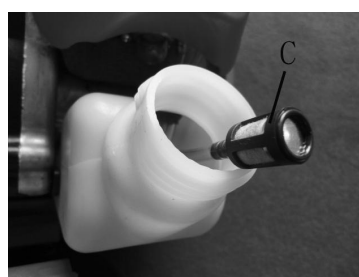

Fig.18
2. Pull off fuel filter (C) with a twisting motion (Fig.18).
3. Replace fuel filter (Fig.18).